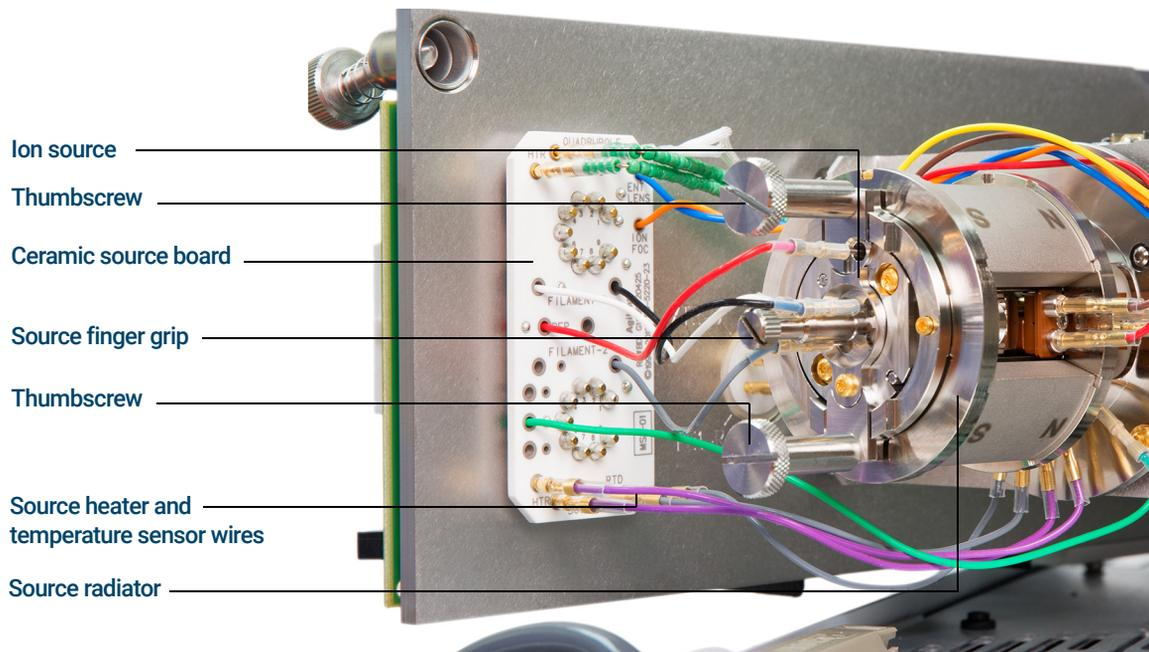

Figure 49 The analyzer chamber for the HES MSD
- 3 Remove the two large thumbscrews that hold the ion source in place. (See Figure 49 on page 149.)
- 4 Disconnect the wires from the EI HES. (See Figure 49 on page 149.) Do not bend the wires any more than necessary. (See “Connecting/Disconnecting Wiring to the EI HES” on page 150.)